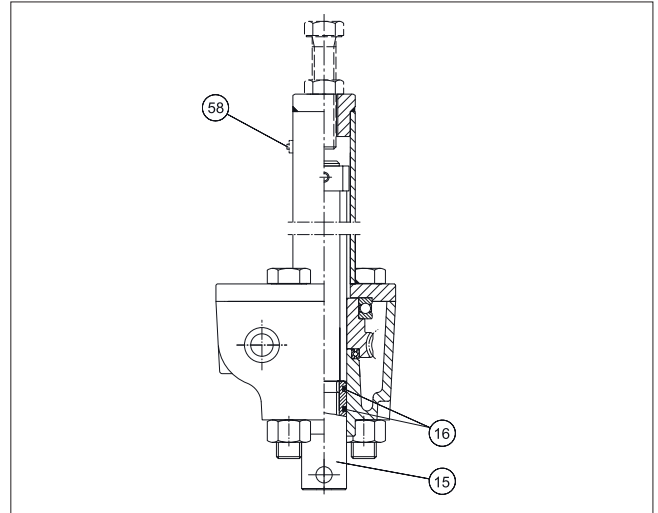

Fig. 25 Manual override
There is some air bleed through the spindle thread and the relief valve (58) when the sealing slide (15) with the O-rings (16) is positioned inside the cylinder. I.e. when the valve has been manually operated to open position during compressed air loss and then the air pressure is restored. To stop the leakage operate the manual override to closed position. See Fig. 25